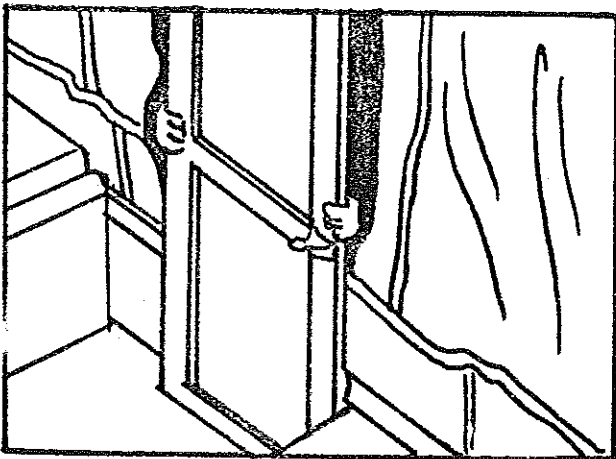

FIGURE 16
26. Grasping the door frame with both hands, one on either side, lower screen door into doorframe track at base of doorway. See Figure 16. Unlock screen door latch and step inside.